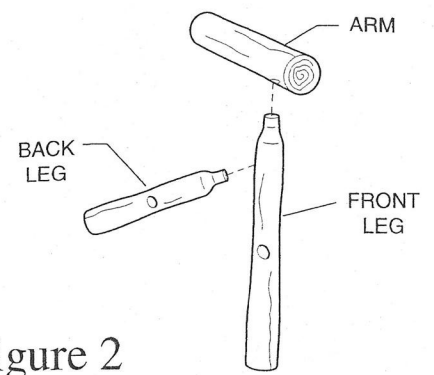

figure 2
STEP 2 Make a right leg set and a left leg set by inserting dowel end of back leg into angled hole of front leg. The drilled holes on each leg should face the same direction as shown in figure 2. Put arms onto legs by inserting dowel end of front legs into the hole in the arms. Drive arm onto leg assembly as far as possible.